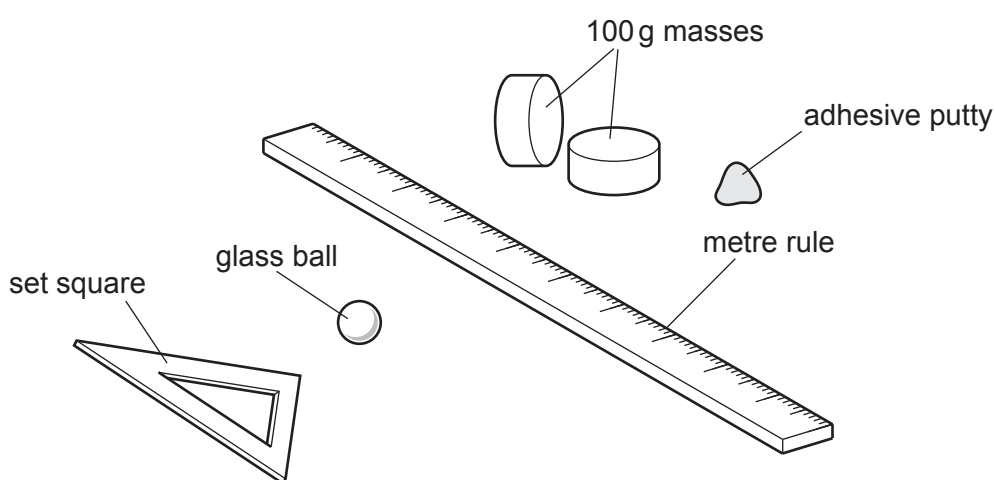

Fig. 3.1
1. The glass ball, set square, metre rule, adhesive putty and two 100 g masses must be placed near to each other on the bench as shown in Fig. 3.1.